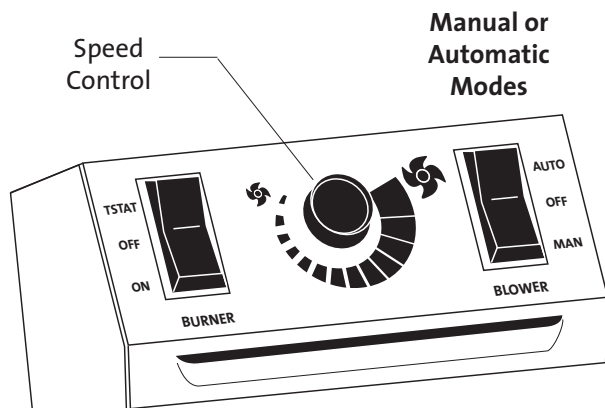

Figure 36. Blower Controls
- 8. Reinstall the Logset.** Refer to the Owner's Manual if necessary. BE CERTAIN THAT NO EMBER STONES ARE BLOCKING THE PILOT ASSEMBLY OPENING. Refer to fig. 36.